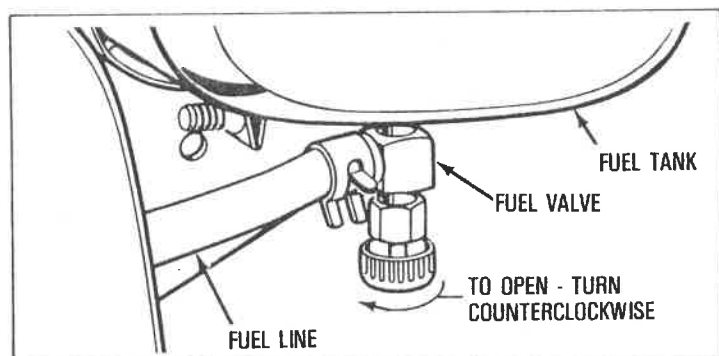

Figure 2
D. Be sure fuel valve (if so equipped - see Figure 2) is open.
③ AFTER ENGINE IS STOPPED:
- A. Close fuel valve (if so equipped - see Figure 2).